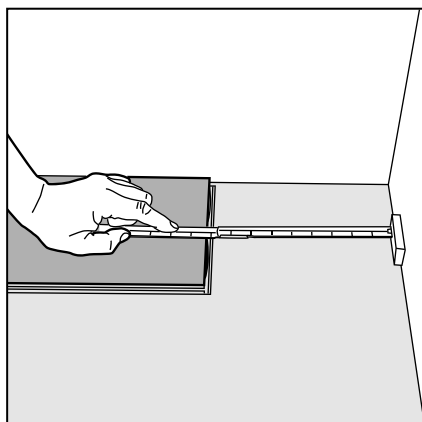

Figure 14 Last plank, first row
- ▶ Measure the length of this panel to fit (Fig 14 ), cut to correct length (minimum length 350mm).